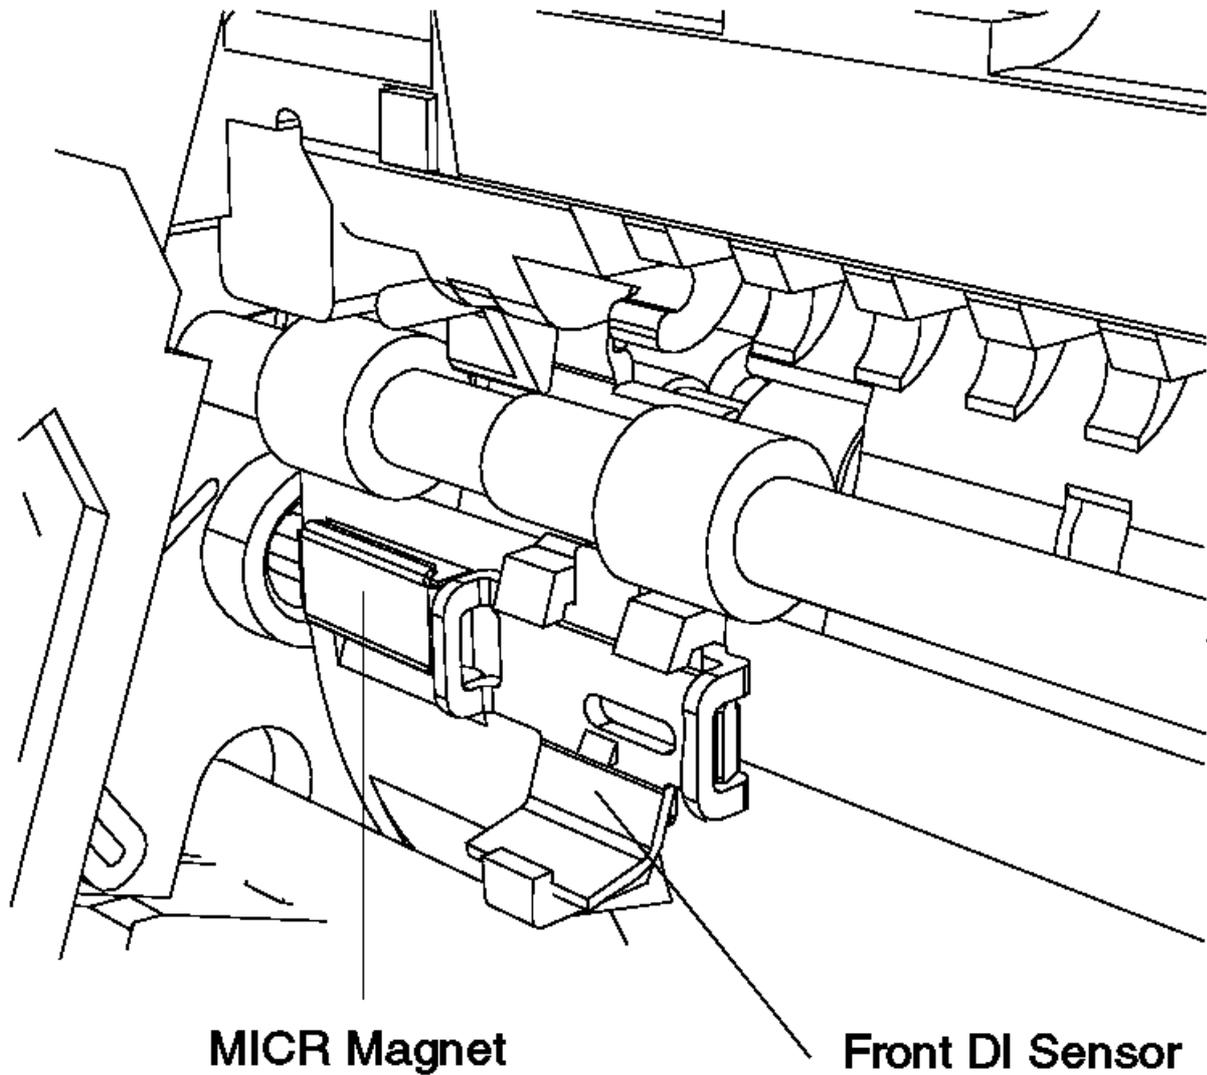

Figure 6-68. Lower DI Sensor with MICR Magnet
9. On printers that have the MICR feature installed, the MICR magnet assembly is held in place by the paper sensor. Make sure you remove the magnet at the same time. See Figure 6-68 in topic 6.38.17.2.